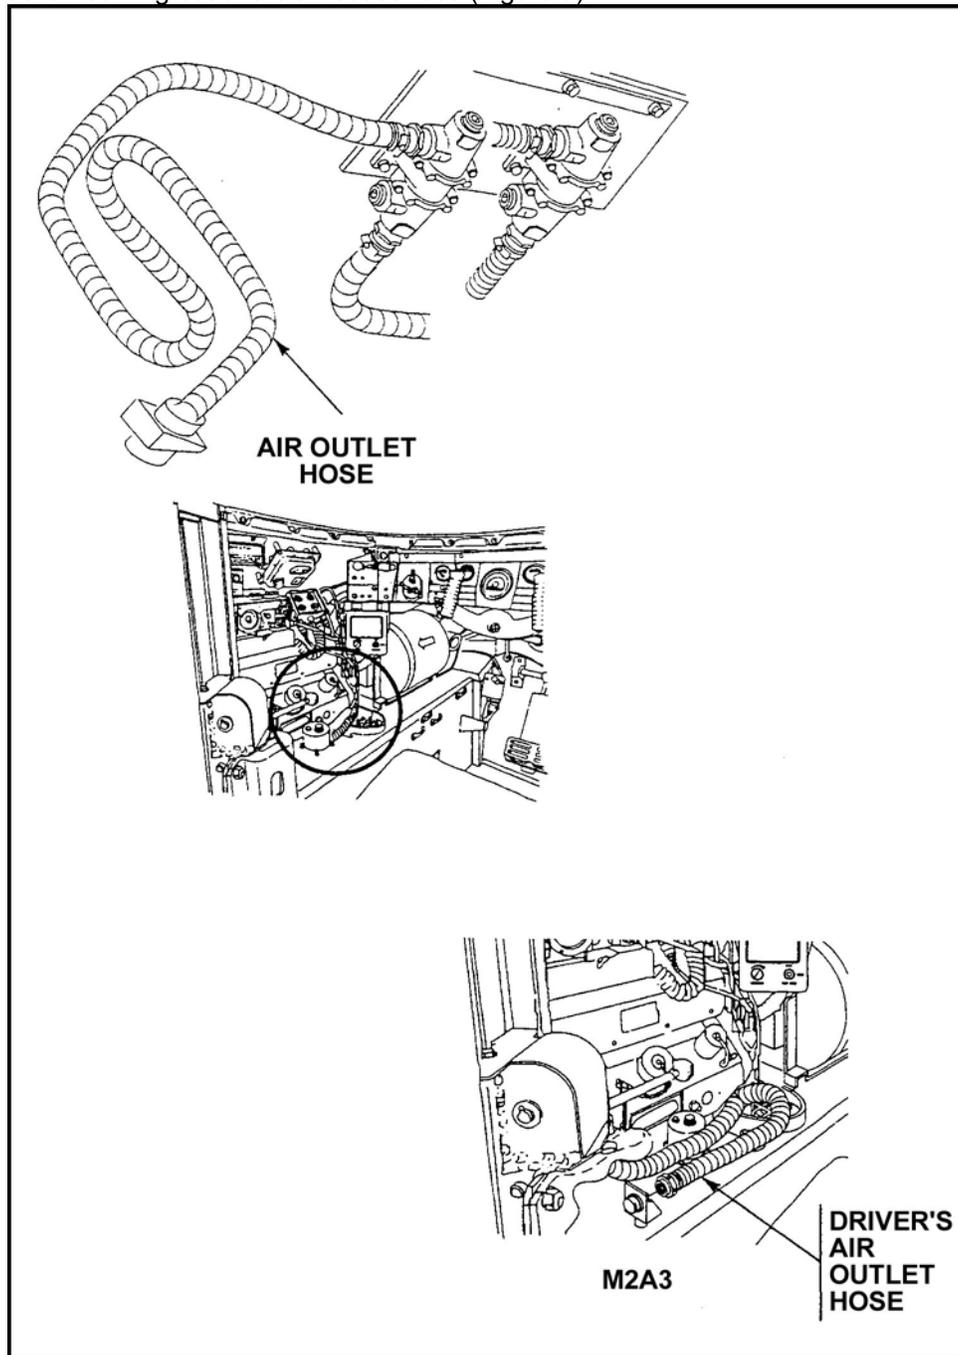

Figure 5. Air outlet hose.
- f. Feel air coming out of the air outlet hose (Figure 5).